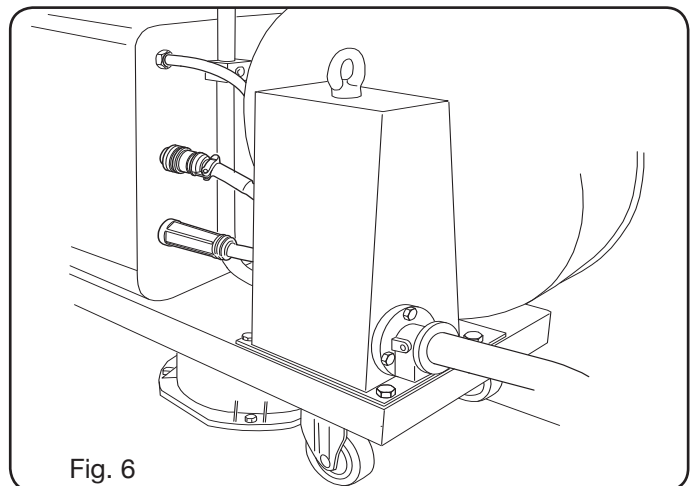

Fig. 6
- Connect the other end of connection **BA** to the wire feeder trolley as shown in fig. 6.